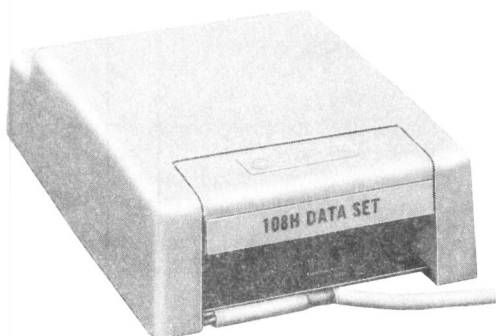

Fig. 1—Data Set 108H (Similar to Data Set 108J)
**1.01** This section contains information concerning the installation and connection of data sets (DSs) 108H and J (Fig. 1).